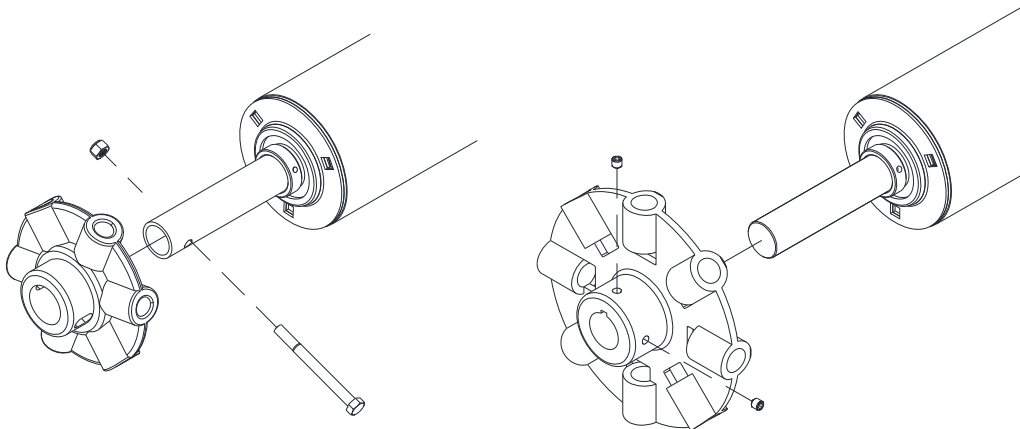

Figure 6.2 – Removal of Adjustor Wheel from Barrel Assembly
5. Typically the adjusting wheel is not shipped attached to the barrel. However, if the adjusting wheel *is* attached to the barrel, remove by loosening the bolt or set screws that secure the adjusting wheel to the barrel and sliding the wheel off the inner shaft. See **Figure 6.2**.
10. Remove the adjusting wheel if you haven't previously, and slide the adjustor bracket over the inner shaft of the barrel assembly. Install the adjusting wheel (see **Figure 6.2**).